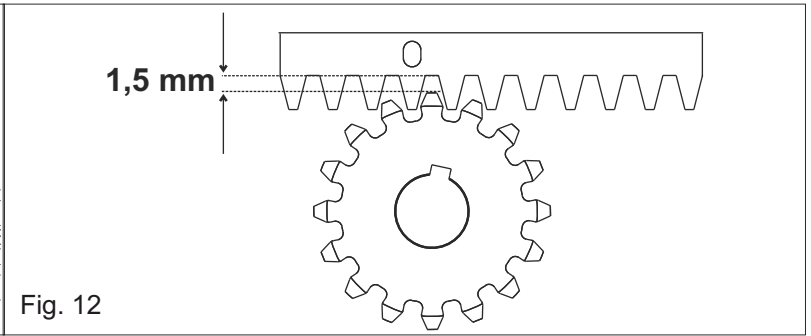

Fig. 12
**5.6.** go avoid that the gate weights down the pinion (Fig.12) lift up the whole rack about 1,5 mm.